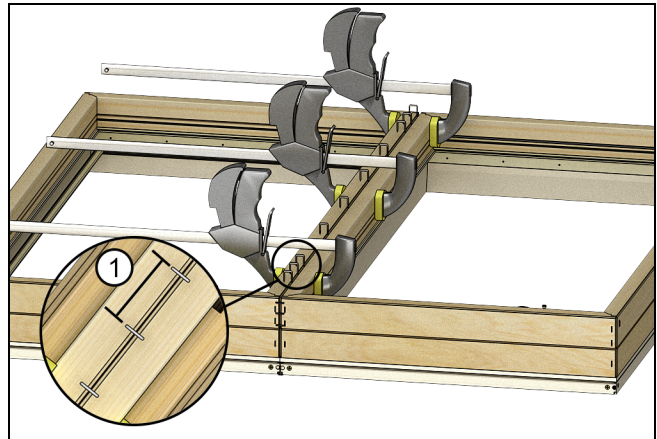

Figure 20
8. Fasten the units together with 5/8" x 1/2" staples as shown. Three staples spaced at 2" intervals must be placed on both ends, starting approximately 2" from the edge of the frame. Space the remaining staples at 5-8" intervals. See Figure 20.